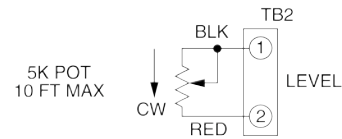
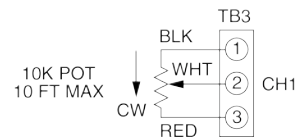

Figure 5
Figure 7
- ❑ 3. Bring the external potentiometer wires through the conduit entrance hole and wire the potentiometers to the appropriate terminals blocks as shown in (Figure 5) CBC-200-2, (Figure 6) CBC-200-1, or (Figure 7) CBC-200-3.
- 1. Wire the external level adjust potentiometer on Terminal Block TB-2 as shown in the diagram. (See Figure 5)
- 1. Wire the external current limit adjust potentiometer to Terminal Block TB-3 for Channel 1 as shown in the diagram. (See Figure 7)
- 4. Wire the external level adjust potentiometer to Terminal Block TB-2 as shown in the diagram. (See Figure 7)